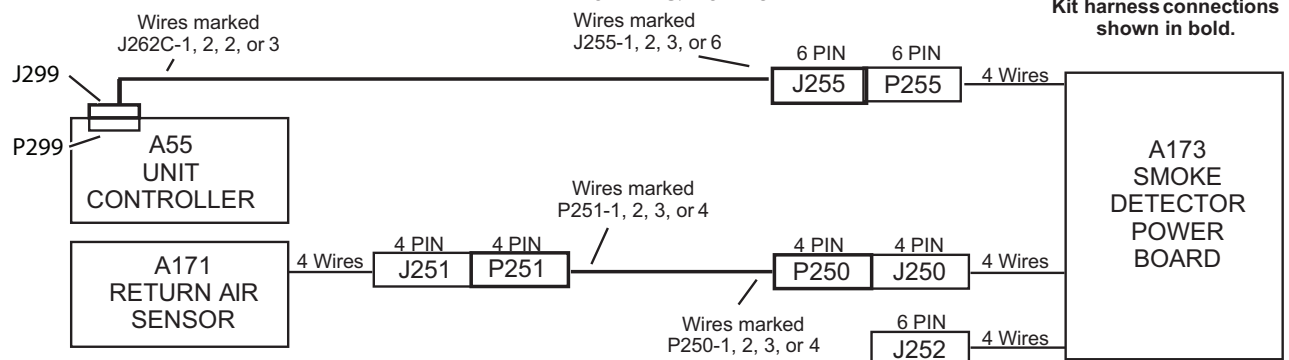
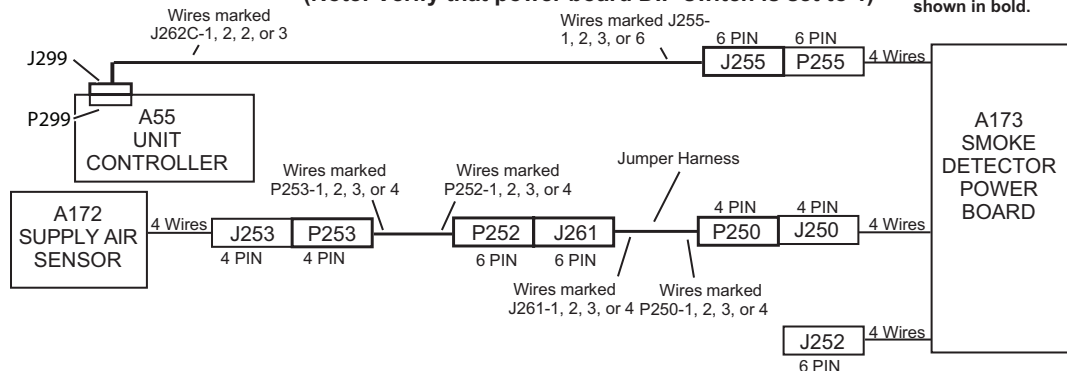
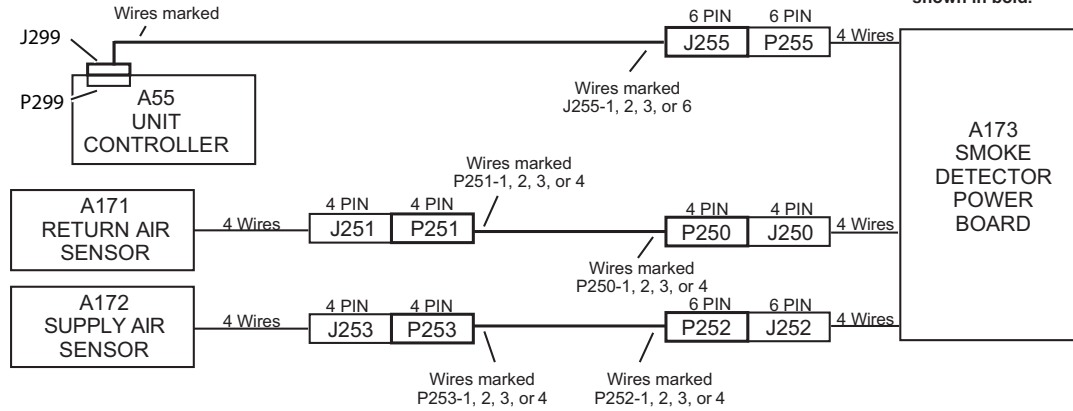

FIGURE 6 Unit Application With Return Air Smoke Detector Only
FIGURE 7 Unit Application With Supply Air Smoke Detector Only
FIGURE 8 Unit Application With Return And Supply Air Smoke Detectors
- 1 - Make jack/plug connections as shown in FIGURE 6 when installing return air smoke detector only, FIGURE 7 when installing supply air smoke detector only, and FIGURE 8 when installing both supply and return air smoke detectors.